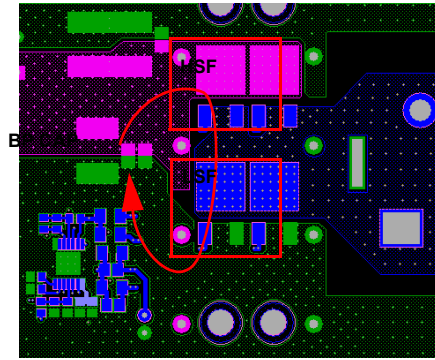

FIGURE 148. RECOMMENDED LAYOUT PATTERN FOR PHASE NODE
2. Place high quality ceramic bypass capacitors as close as possible to the power MOSFET stack from BAT48 to GND, see Figure 148. Keep this loop (ceramic bypass capacitors and MOSFET stack) as small as possible for each phase to reduce voltage spikes induced by the trace parasitic inductances when the MOSFETs are switching ON and OFF.
- The most major example of an aggressor trace is the phase node(s). They carry both high switching current and voltage, and with fast transition rates. The major components of the phase node are two FETs and an inductor. Trapezoidal current flows alternately from each of the FETs to the inductor. The inductor current is a triangular combination of the two trapezoids. Consider two current loops, one when the high-side FET is on and the other when the low-side FET is on, see Figure 148. When the high-side FET is on, provide for a local source of current from a bypass capacitor. Connect this local input voltage source capacitor, the input side to the drain of the high-side FET, and the ground side to the source of the low-side FET. Minimize the impedance of this node to the ground side of the output capacitors by using a ground plane. The area of the phase node must be kept small to minimize capacitive coupling to other nodes, but large enough to dissipate heat from the power processing components. Do not route potential victim traces near any phase node.